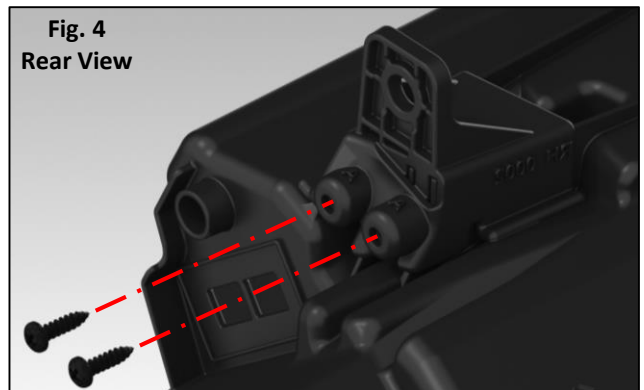

Fig. 4
4. Install: Install the prepared tab(s) ensuring a flush fit to the housing **Fig. 4**. Next, drive the 5/8" screws at the locations marked (A). **DRIVE SCREWS MANUALLY. APPLY GLUE TO SCREW THREADS BEFORE DRIVING.** Allow the glue to cure for approximately 30 minutes before installing the repaired headlight on the vehicle.